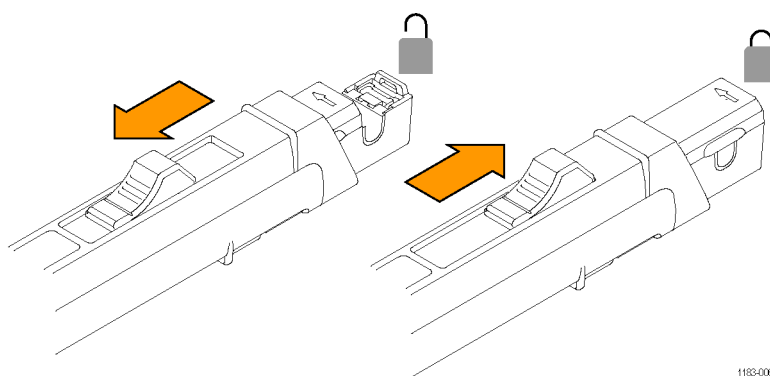
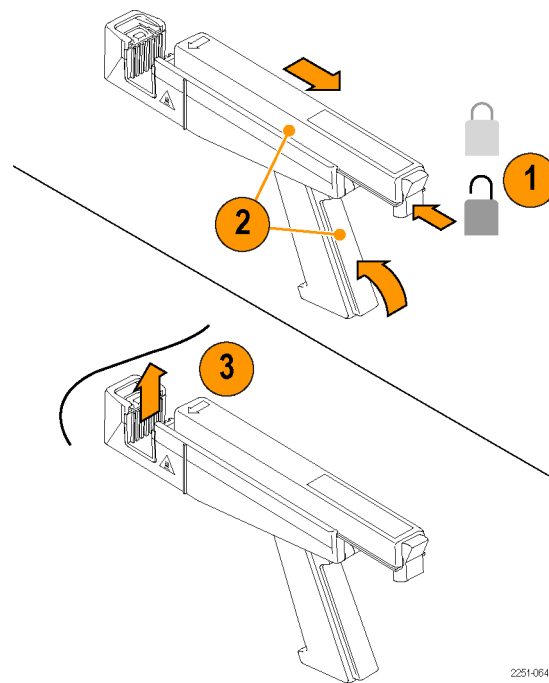

Figure 6: TCP312A and TCP305A slide operation
Figure 7: Unlock and open the TCP303 and TCP404XL
The slide operation of the TCP305A and TCP312A current probes is shown in the following illustration. (See Figure 6.) To open the probe, pull the slide back until the jaw is open. To lock the probe, push the slide forward until the detent snaps into place.
3. Lock the probe slide closed. (See Figure 6.) (See Figure 7.)